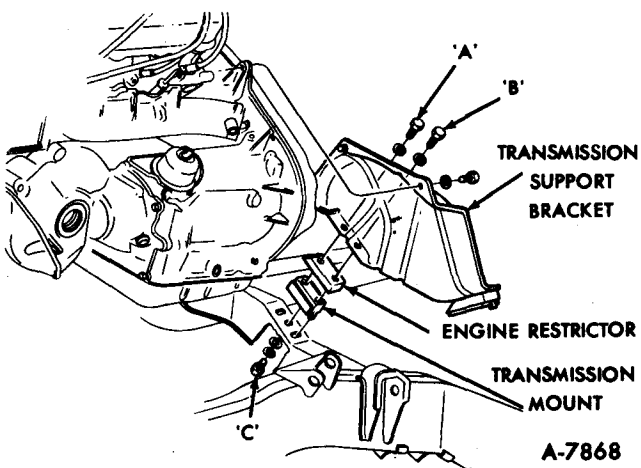

Figure 11—Engine Rear Mounting
3. Remove bolts "A", "B" and "C" on both sides of the engine/transmission rear support (figure 11).